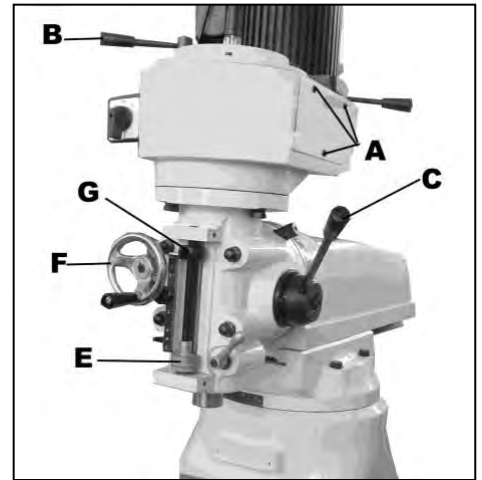
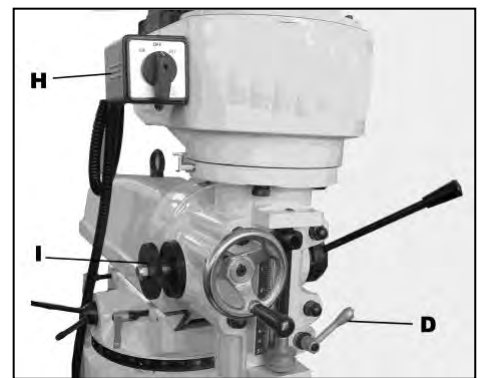

Fig.4
Fig.5
- A. **Belt Cover Lock Knobs** (A, Fig. 4)-located on the right side of the head. Loosen and remove belt cover to change belt position on the pulleys.
- B. **Spindle Brake** (B, Fig. 4)-located on left side of the head. Move in either direction to stop spindle once power has been turn off.
- C. **Quill Feed Handle** (C, Fig. 4)-located on the right side of the head. Rotate counter-clockwise to lower spindle. Return spring will retract the spindle automatically once the handle is released.
- D. **Quill Lock** (D, Fig. 5)-located on the right side of the head. Rotate the handle clockwise to lock the quill in a desired position. Rotate the handle counter-clockwise to release.
- E. **Micrometer Adjusting Nut** (E, Fig. 4)-located on the front of the head. Use for setting specific spindle depth.
- F. **Manual Fine Feed** (F, Fig. 4)-located on the left side of the head. Must engage fine feed (I, Fig. 5) for hand wheel to function.
- G. **Quill Stop** (G, Fig. 4)-located on the front of the head. Used in conjunction with micrometer adjusting nut for predetermined depth.
- H. **Reversing Switch** (H, Fig. 5)-located on the left side of the head. Switches rotation of spindle. For 3 Ph motor there is an additional low and high-speed option.
- I. **Fine Feed Engagement** (I, Fig. 5)-located
1. Unscrew two knobs (A, Fig. 4) and remove belt cover.